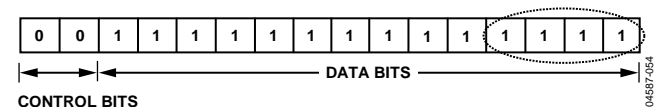
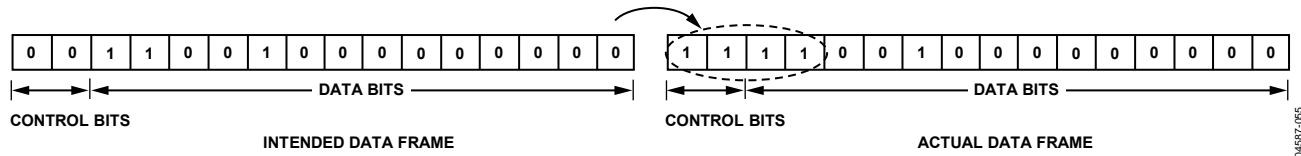

Figure 54. AD5453 First Write, Complete Data Sequence (0x3FFF)
Figure 55. AD5453 Second Write, Incomplete Data Sequence (0x3200) and Subsequent Additional Bits (0xF200)
- The user expects an output of 5.6 V. However, if SYNC goes high after 12 valid clock edges then an incomplete data sequence of 12 bits is loaded. To complete the shift register the 4 LSBs from the previous sequence are taken and used as the 4 MSBs missing. The addition of these 4 bits will put the part in rising edge mode and the output will show no change. Figure 54, Figure 55, and Table 11 show the data frames for this example.